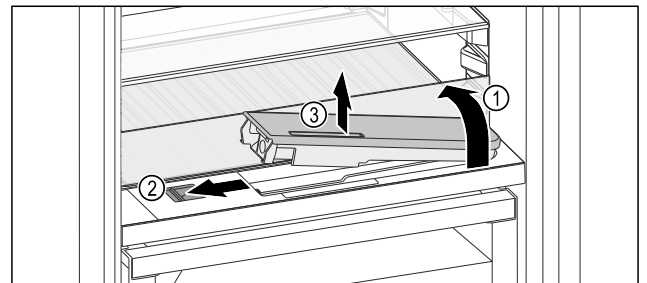

Fig. 194
- ▶ Lift the glass panel and fold towards the rear until it clicks into place Fig. 194 (1).
- ▶ Slide the slider Fig. 194 (2) to the left.
- ▶ Remove the water tank Fig. 194 (3).